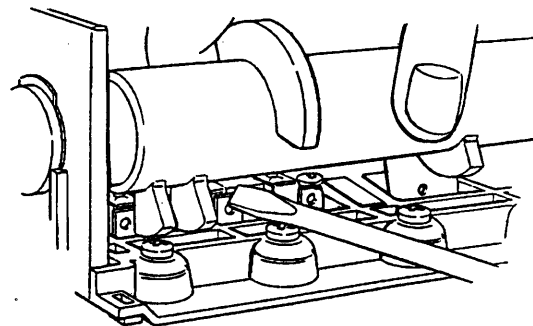

Figure 15
4. Relieve system pressure by opening the drain flapper (the fifth flapper back from the control) with a screwdriver, Figure 15.